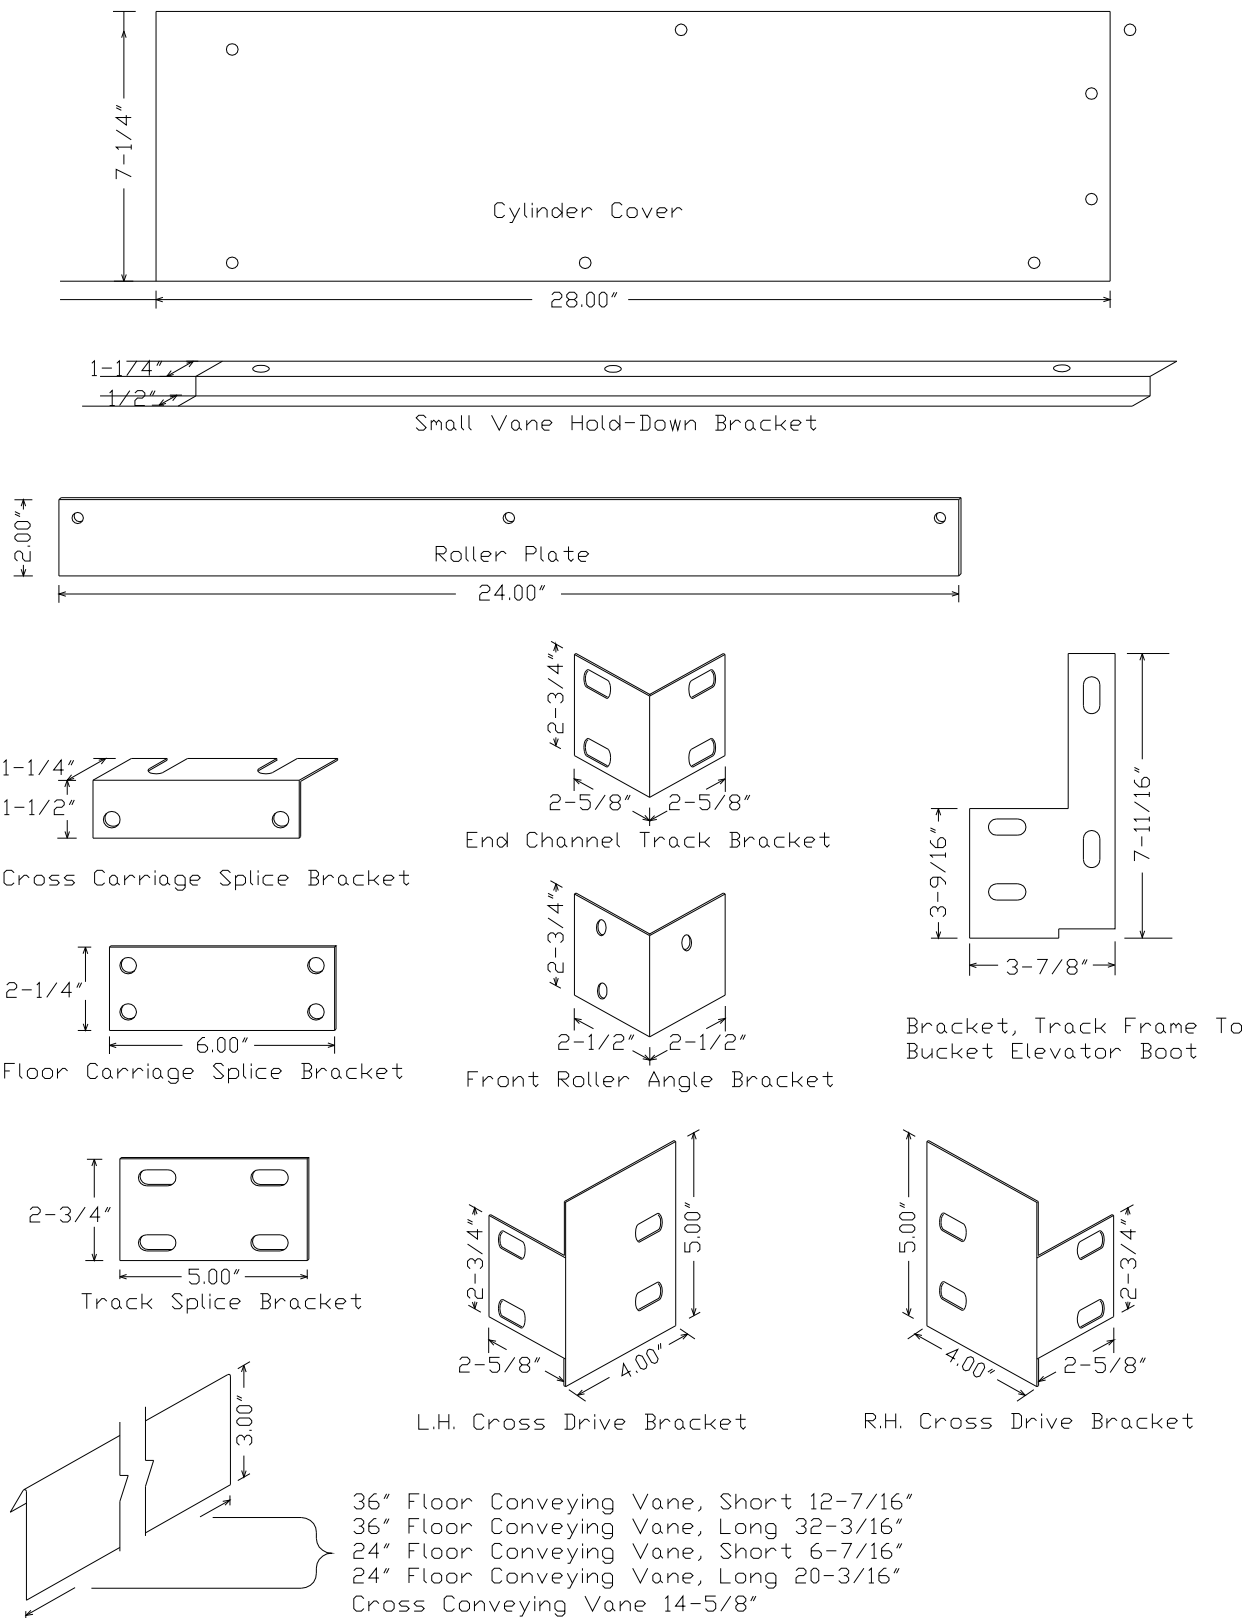
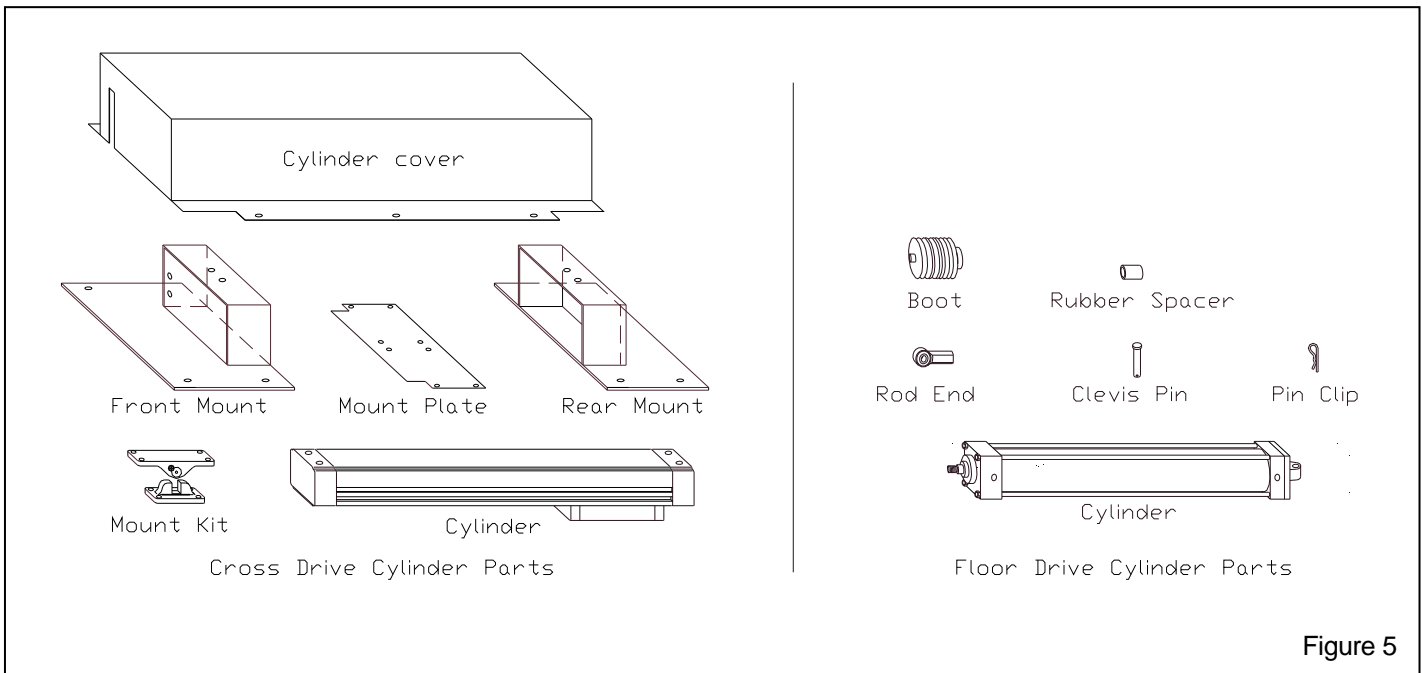

Figure 3
Figure 5
2.2.3 Identify and sort hardware shown in Figure 3, carriages shown in Figure 4, and cylinder equipment shown in Figure 5. Make sure the carriages are flat. Straighten any that may have bent during shipment. It is important that the carriage frames lay flat on the floor.